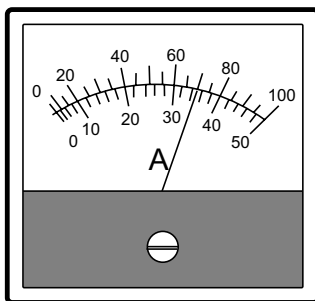

Figure 55. Ammeter (Load)
16. Observe the generator's ammeter (Figure 55) and verify it reads the anticipated amount of current with respect to the load. The ammeter will only display a current reading if a load is in use.